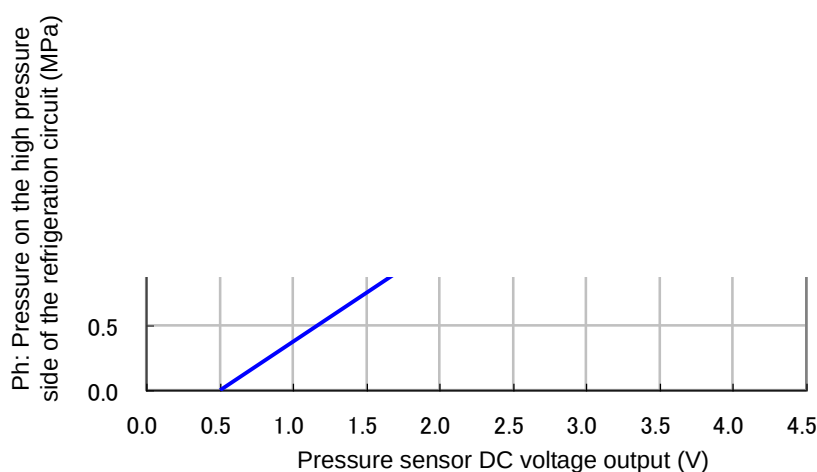

Fig. 3.3-18 Refrigerant circuit pressure sensor (for high pressure) analogue output
- (1) Check the "Ph: Refrigerant circuit pressure on the high pressure side" value in the "Check Monitor Menu".
- (2) Check voltage by contacting the probe of the tester directly to the connector external surface with the "CN4" connector of the main board being inserted.
- (3) Contact the positive probe to the pin number 11 and contact the negative probe to the pin number 10 of the "CN4" connector.
- (4) Check that the voltage between the pin number 11 and the pin number 10 is in the same relationship shown in Fig. 3.3-18. (Accuracy: $\pm 5\%$)
- (5) If the voltage is in the same relationship as the graph shows, it means that the main board is operating correctly.